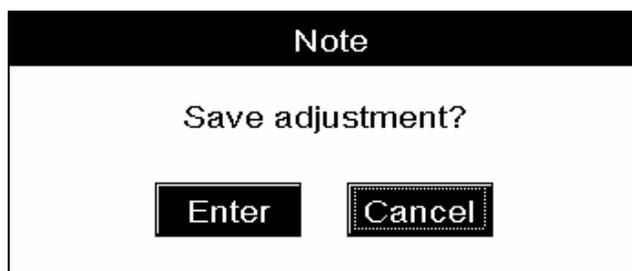

Figure7-26 "Note" message box
5. Press [ENTER] and a message box will pop up, as Figure7-26 shows.